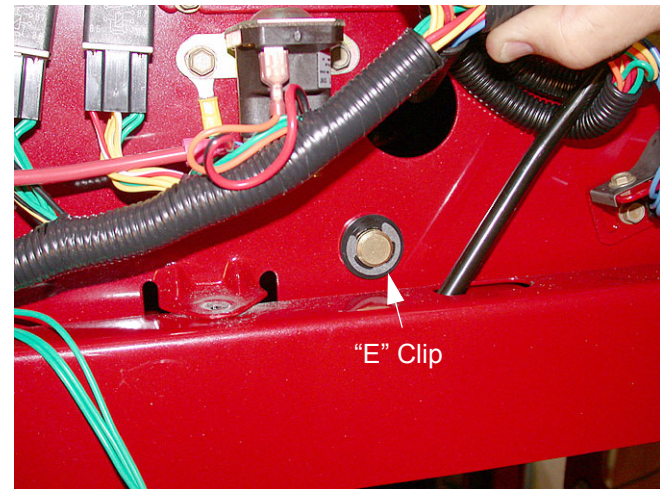

Figure 17.15
17.15. Remove the E-clips on the ends of the deck lift shaft. See Figure 17.15.